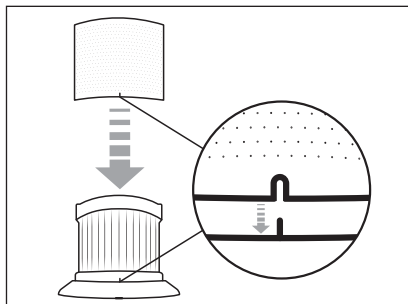

Fig. 14
- 5) Place the stainless steel filter **6** on the EPA filter **5** and push it completely onto the EPA filter **5**. Make sure that the lock on the EPA filter **5** engages in the groove on the stainless steel filter **6** (see Fig. 14).